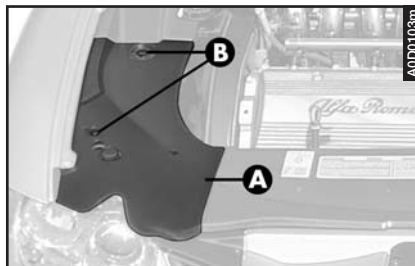

fig. 19
Access to the windscreen/headlight washer fluid reservoir, remove the cover (A-fig. 19) after turning the pins (B).